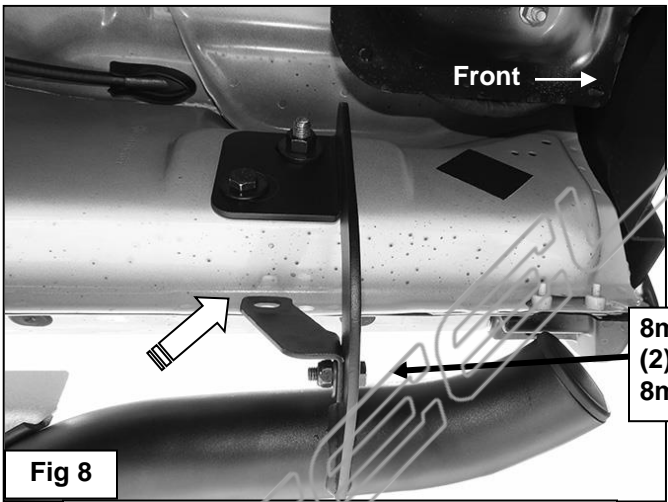
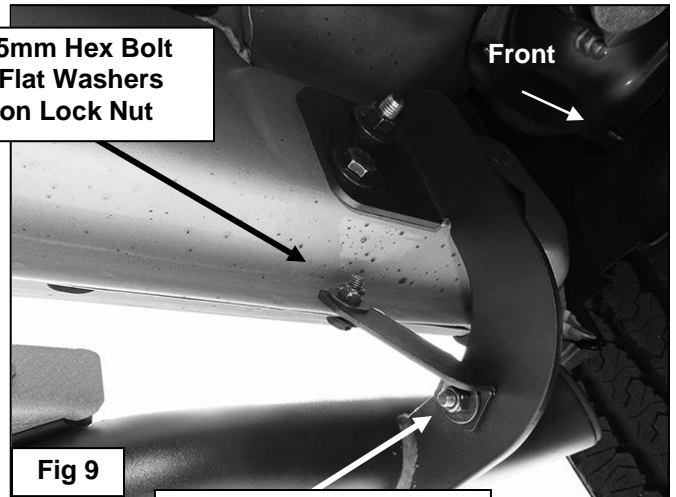

Fig 8
Fig 9
6. Move to the front Bracket location. Select (1) Driver/left Support Bracket, **(Figure 7)**. Bolt the bent end of the Bracket to the back of the Mounting Bracket with (1) 8mm Hex Bolt, (2) 8mm Flat Washers and (1) 8mm Nylon Lock Nut, **(Figure 8)**. Line up the flat end of the Support Bracket with the back of the pinch weld. Leave hardware loose at this time. Repeat this Step to install the center and rear Support Brackets.
- a) Adjust Mounting Brackets up or down to level the Running Board. Mark the location of the hole in the Support Bracket onto the back of the pinch weld, **(Figure 8)**. **IMPORTANT:** Make sure that you do not mark or drill too close to the edge of the pinch weld.
- c) Move the (3) Support Brackets out of the way. Use a 5/16" (or 8mm) drill bit to drill through the pinch weld for all (3) Support Brackets. **IMPORTANT:** Do not drill for Support Brackets until after the Running Board has been completely installed and adjusted.
- d) Bolt each Support Bracket to the back of the pinch weld with (1) 8mm Hex Bolt, (2) 8mm Flat Washers and (1) 8mm Nylon Lock Nut, **(Figure 9)**. Skip to **Step 8**.
- b) Bolt each Support Bracket to the back of the pinch weld with (1) 8mm Hex Bolt, (2) 8mm Flat Washers and (1) 8mm Nylon Lock Nut, **(Figure 9)**. Do not tighten hardware at this time.